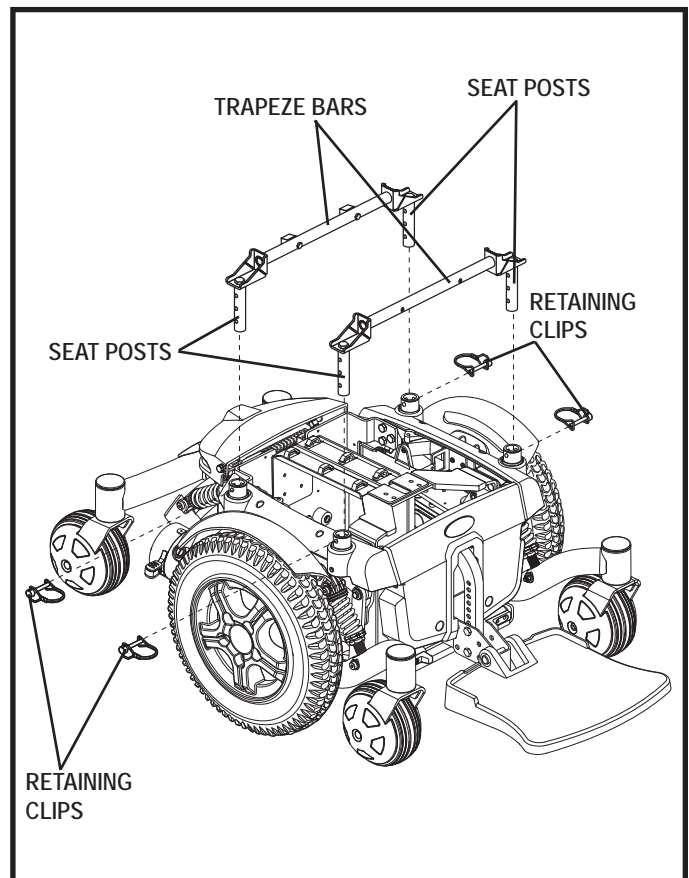

Figure 12. Seat Height/Angle Adjustment
8. Remove the retaining clips that attach the trapeze bars to the seat posts. **See figure 12.**